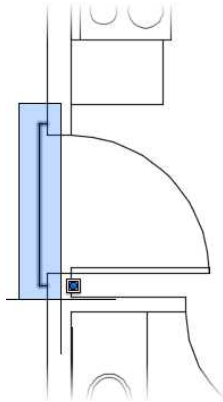

FIGURE 6.20: Selecting the threshold with a regular selection window
7. Start a selection window slightly above and to the left of the threshold, and drag down and to the right, as shown in Figure 6.20. Be sure to enclose the horizontal threshold lines completely.